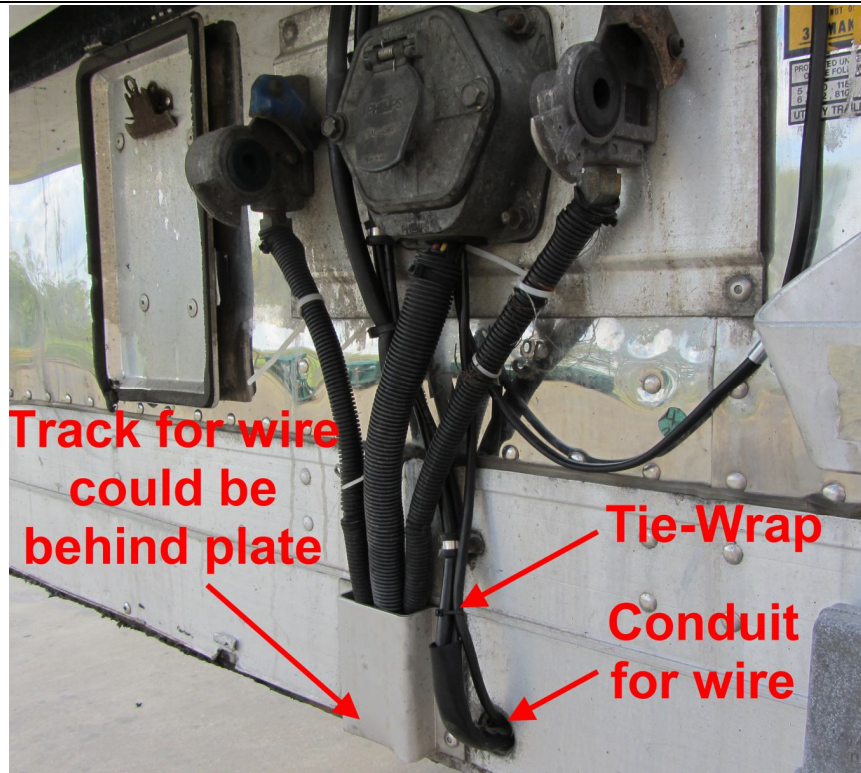

Figure 30
- Run the 3 wire cable down through the front of the trailer in conduit or space provided by the trailer manufacturer. Make sure the cable stays inside the conduit or track between the tractor and the trailer. Failure to do so may cause the wire to be damaged. See Figure 30